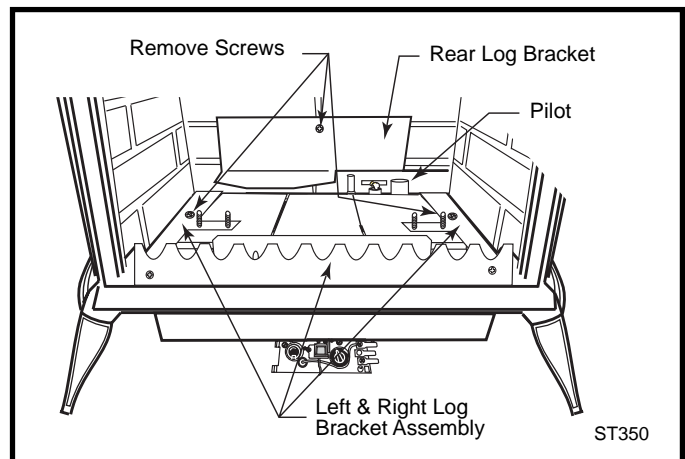

Fig. 57 Remove rear log bracket and left and right log bracket assembly.
5. Remove the rear log bracket by unfastening the screw. (Fig. 57)
6. Remove the right and left log bracket assembly by unfastening the two screws which hold the burner in place. (Fig. 57)
14. Locat pilot. (Fig. 57)